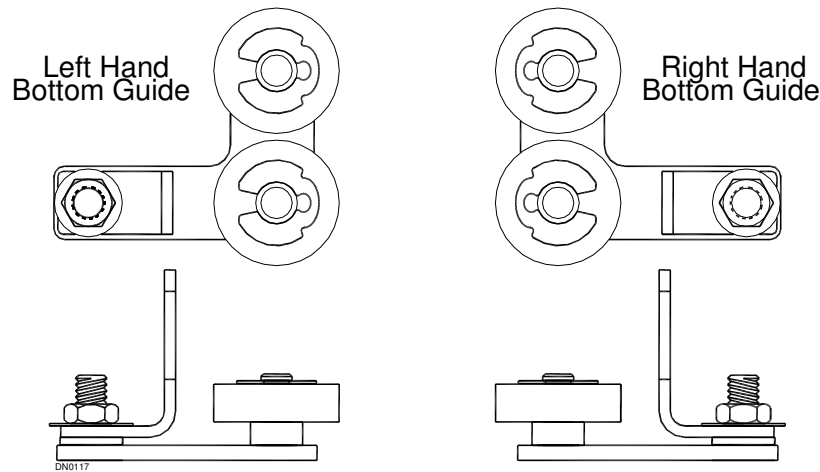

Figure 9 - Bottom Guides
1. Locate the bottom guide assembly in the parts box (see Figure 9). NOTE: There is a right hand and left hand bottom guide that will correspond to a right and left door.